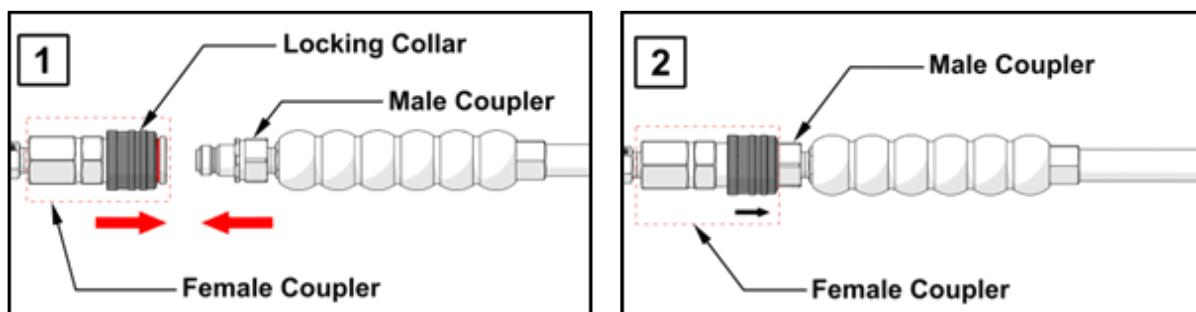

Figure 5.1: Hydraulic Connections
5.2.1 Connections (See *figure 5.1*)